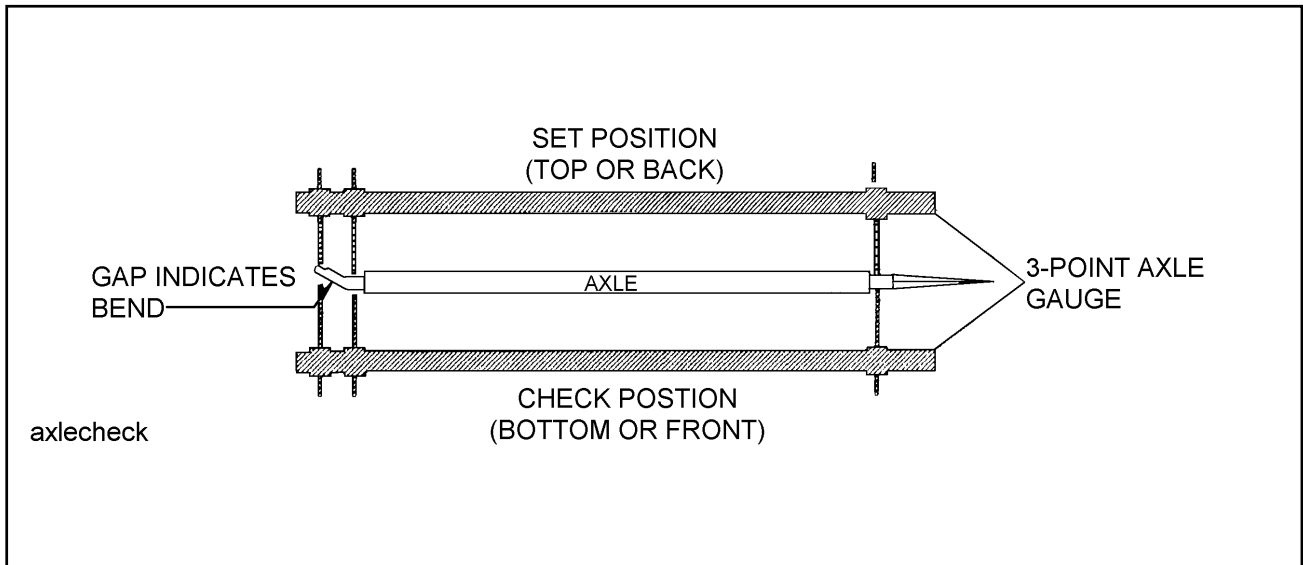

Figure 4-6 Checking Axle for Bend
- b. Place a 3-point axle gauge against the front side of the axle, and adjust each axle gauge point to the axle. (Double point end against the inner and outer wheel bearing surfaces of the spindle being checked and the other point on the inner bearing surface on the other spindle.)**(See Figure 4-6).**
- c. Move the axle gauge and place against the back side of the axle. If either of the points of double point end fails to touch the axle surface, a bent spindle is evident. A point gap of .015" or more is considered excessive tire “toe” and the axle must be replaced **(See Figure 4-6).**